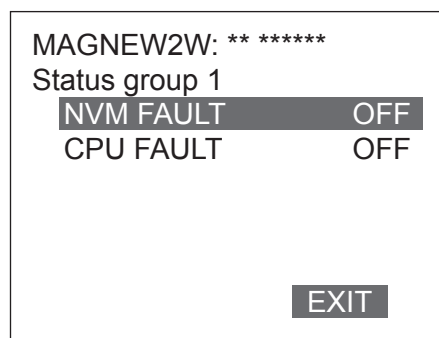

Figure 7-76
2. There are 3 groups. Each group has different items to be verified. Figure 7-76 shows an example of “status group 1”.